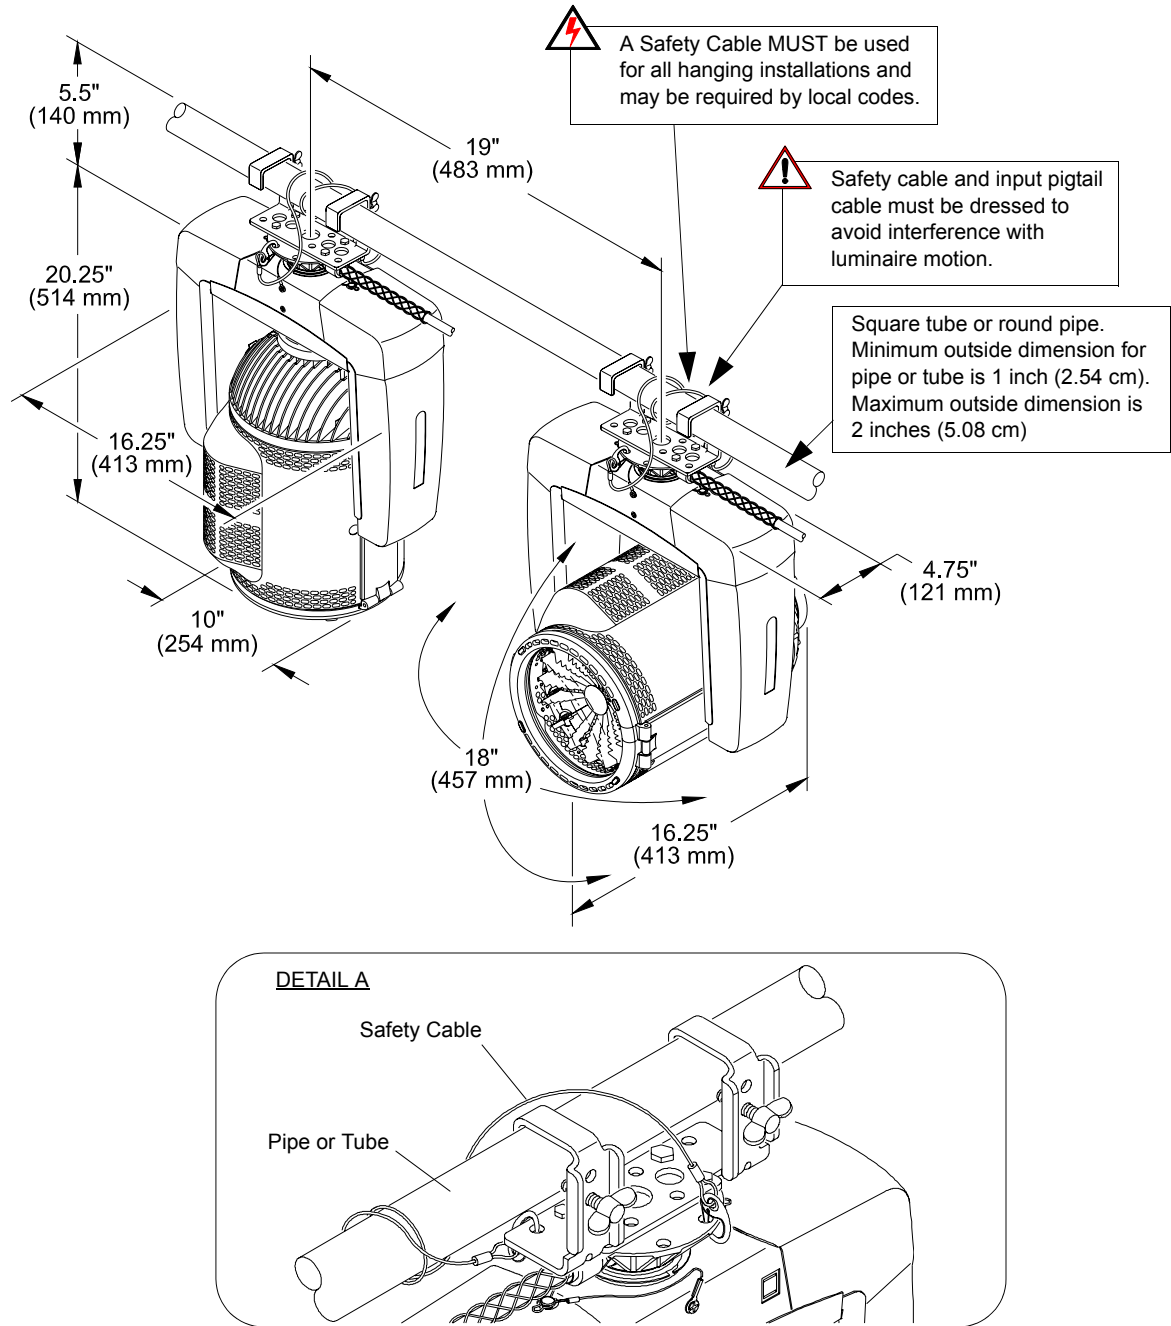

Figure 2-2: Standard Hanging Configuration and Clearances
- Step 1. Lift luminaire into mounting position (**Figure 2-2** on next page).
- Step 3. Install safety cable as follows (referring to **Figure 2-2** DETAIL A):